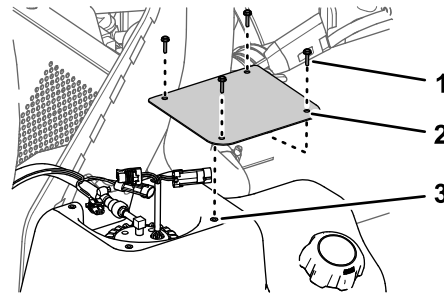

Figure 116
2. At the fuel tank, remove the 4 screws (#10 x 3/4 inch) that secure the cover to the top of the fuel tank, and remove the cover (Figure 116).